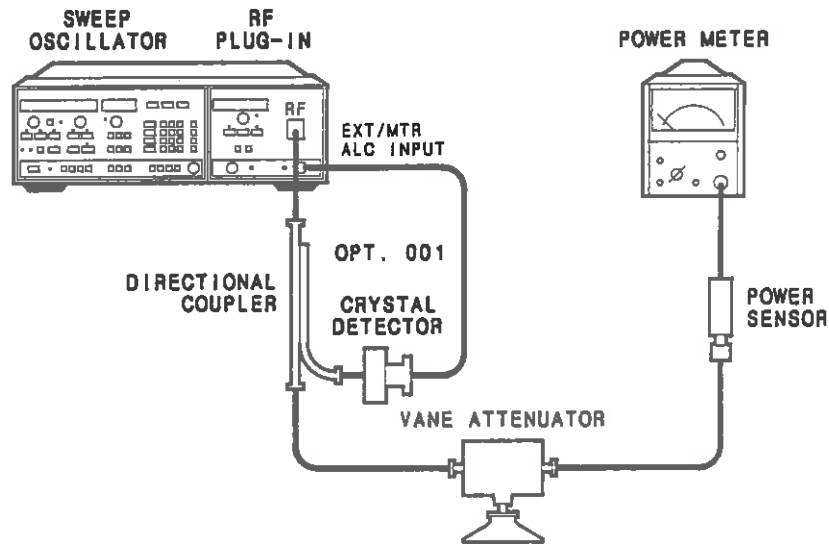

Figure 5-20. Power Sweep Adjustment Setup
1. Connect the equipment as shown in figure 5-20. Set the vane attenuator to 5 dB.